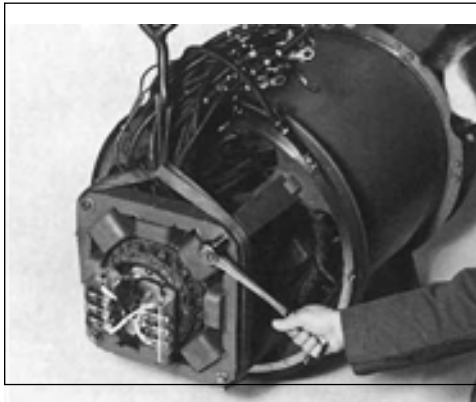
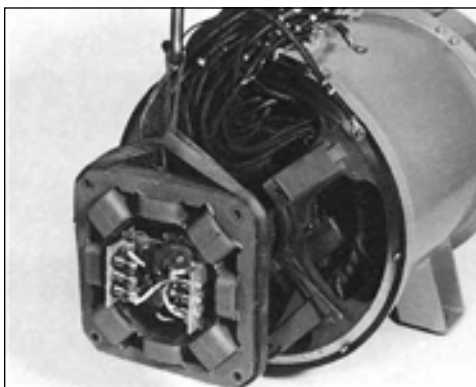

Figure 6-8
Figure 6-9
2. Remove all cable ties so the F1 and F2 leads can be removed with the exciter stator. Remove the four capscrews and belleville washers holding the exciter stator in place (figure 6-8). Remove the exciter stator using a lifting strap or fixture (figure 6-9).